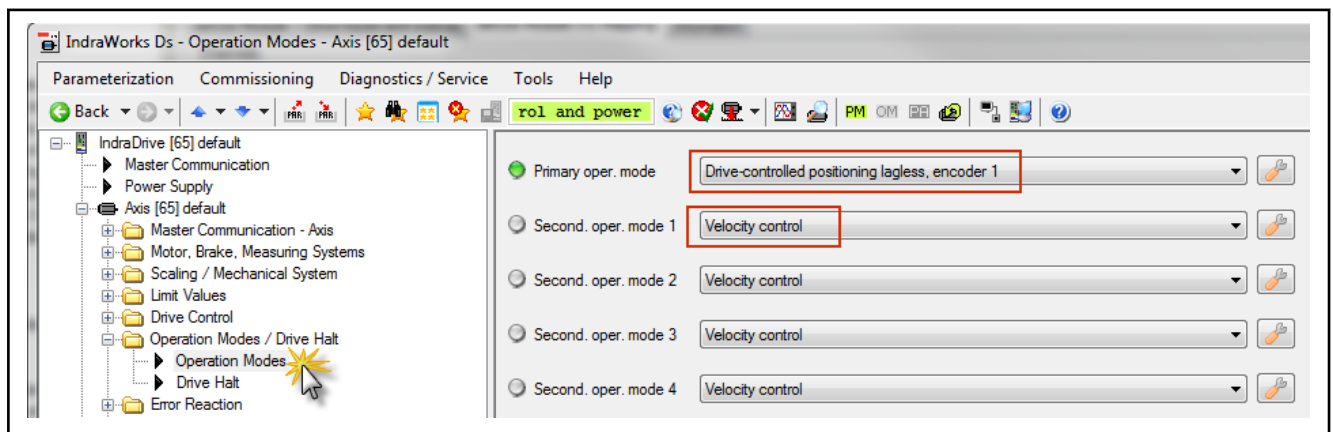

Fig. 6-119: Parameterizing operation modes using IndraWorks Ds
3. Parameterizing operation modes in IndraWorks Ds as described in fig. 6-119 "Parameterizing operation modes using IndraWorks Ds" on page 503.